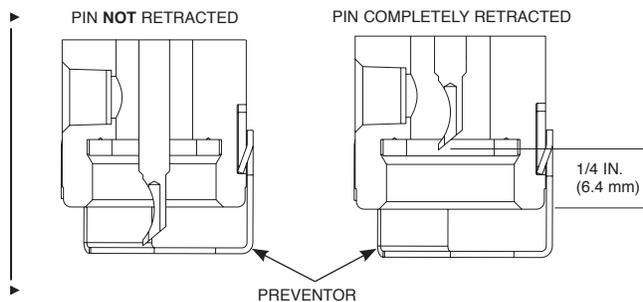

FIGURE 8-2
▶ 8. Make certain electric-pneumatic actuator puncture pin is in the fully retracted position. See Figure 8-2.